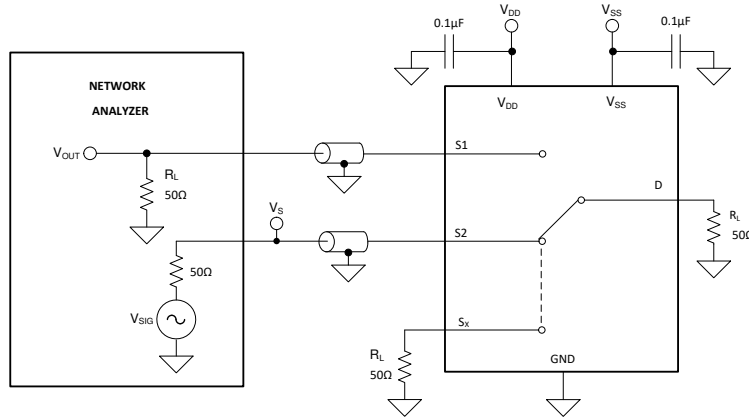

图 7-9. Crosstalk Measurement Setup
Crosstalk is defined as the ratio of the signal at the drain pin (D) of a different channel, when a signal is applied at the source pin (Sx) of an on-channel. 图 7-9 shows the setup used to measure, and the equation used to compute crosstalk.